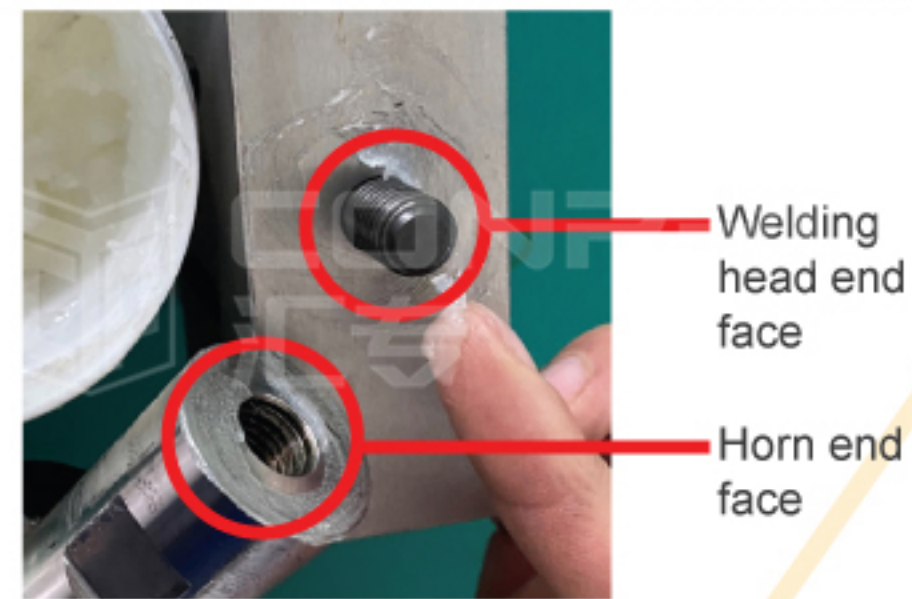

Figure 1
(1) Apply "industrial vaseline" to the welding head end face and the horn end face. (As shown in Figure 1).